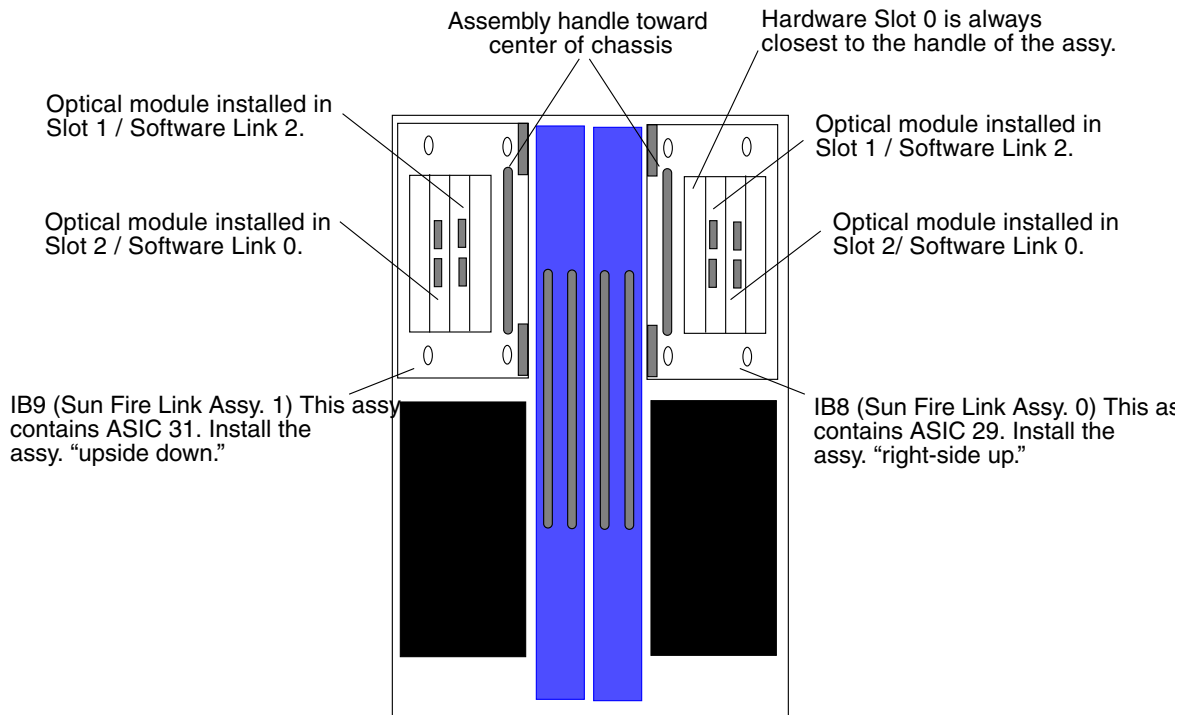

FIGURE 2-1 Hardware Naming Conventions in a Sun Fire 6800 System
FIGURE 2-1 illustrates the naming conventions in Sun Fire 6800 systems. Each component can be referred to by its hardware location and by its software name. These naming conventions are used in all of the Sun Fire 6800 cabling diagrams and tables in this chapter.
The following naming/labeling conventions apply to Sun Fire 6800 system and are shown in FIGURE 2-1:
- The handle on the Sun Fire Link assembly must be installed toward the center of the chassis (FIGURE 2-1).
- What Sun Fire Link software refers to as “Link 2” is in the *hardware slot* labeled *Slot 1* (FIGURE 2-1).
- Software “Link 0” is in the hardware slot labeled *Slot 2* (FIGURE 2-1).